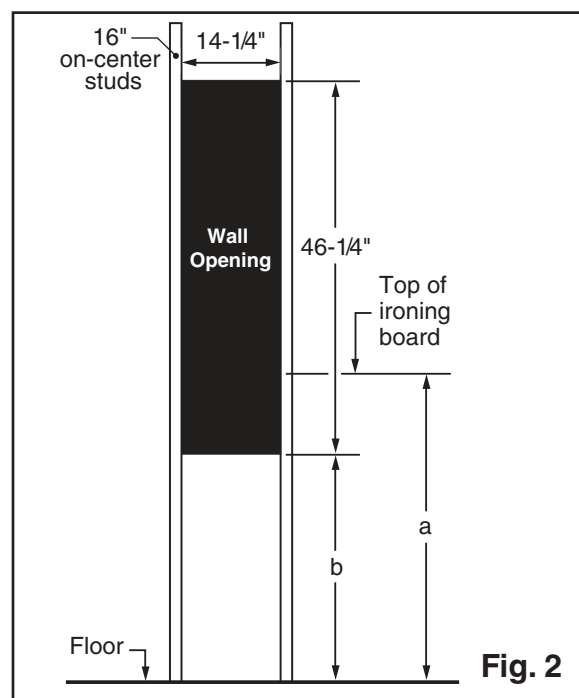

Fig. 2
2. Determine distance above floor. (Fig. 2)
3. Cut the hole in the wall. (Fig. 2)